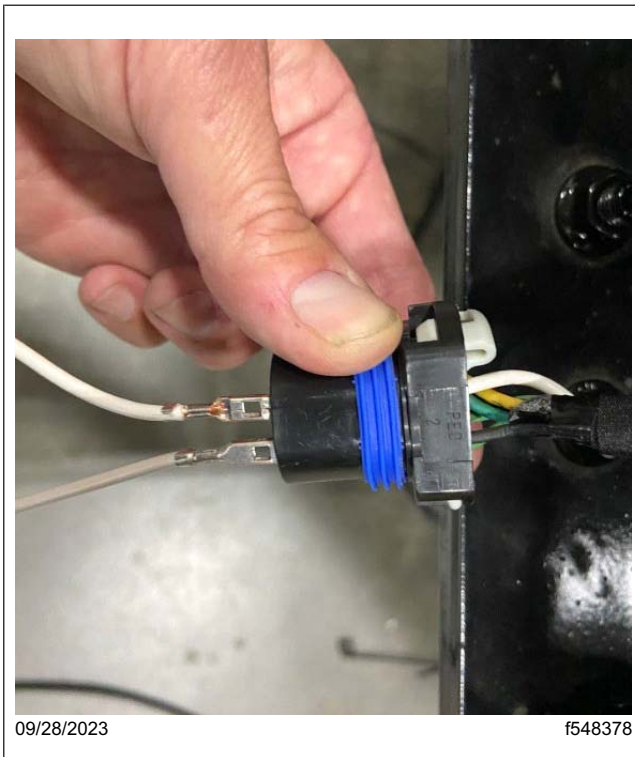
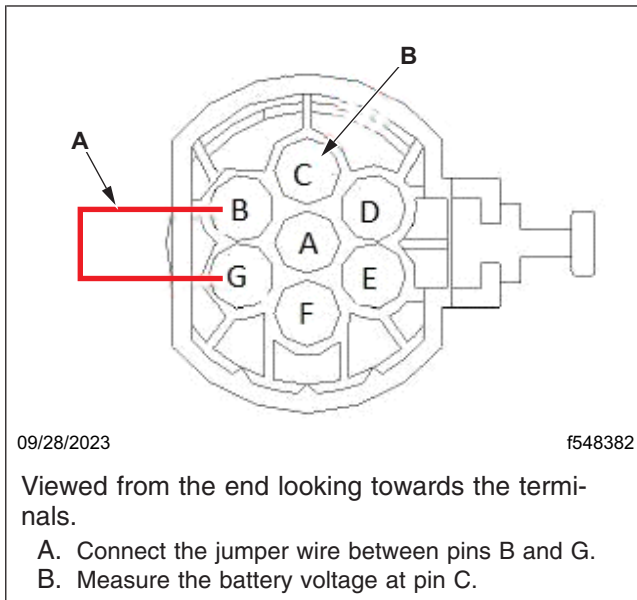

Fig. 94, Testing the Jumper Wire Installed in the Single Connector Plow Light Interface
Fig. 98, Single Connector Plow Light Interface Test Jumper and Voltage Check Pin Locations
- **For single connector plow light interface** → Install a test jumper in the plow light interface connector between pin G (white wire added) and pin B (ground). See Fig. 94 and Fig. 98, page 59.
For single connector plow light interface → Measure the battery voltage at pin C (green wire). See Fig. 98.